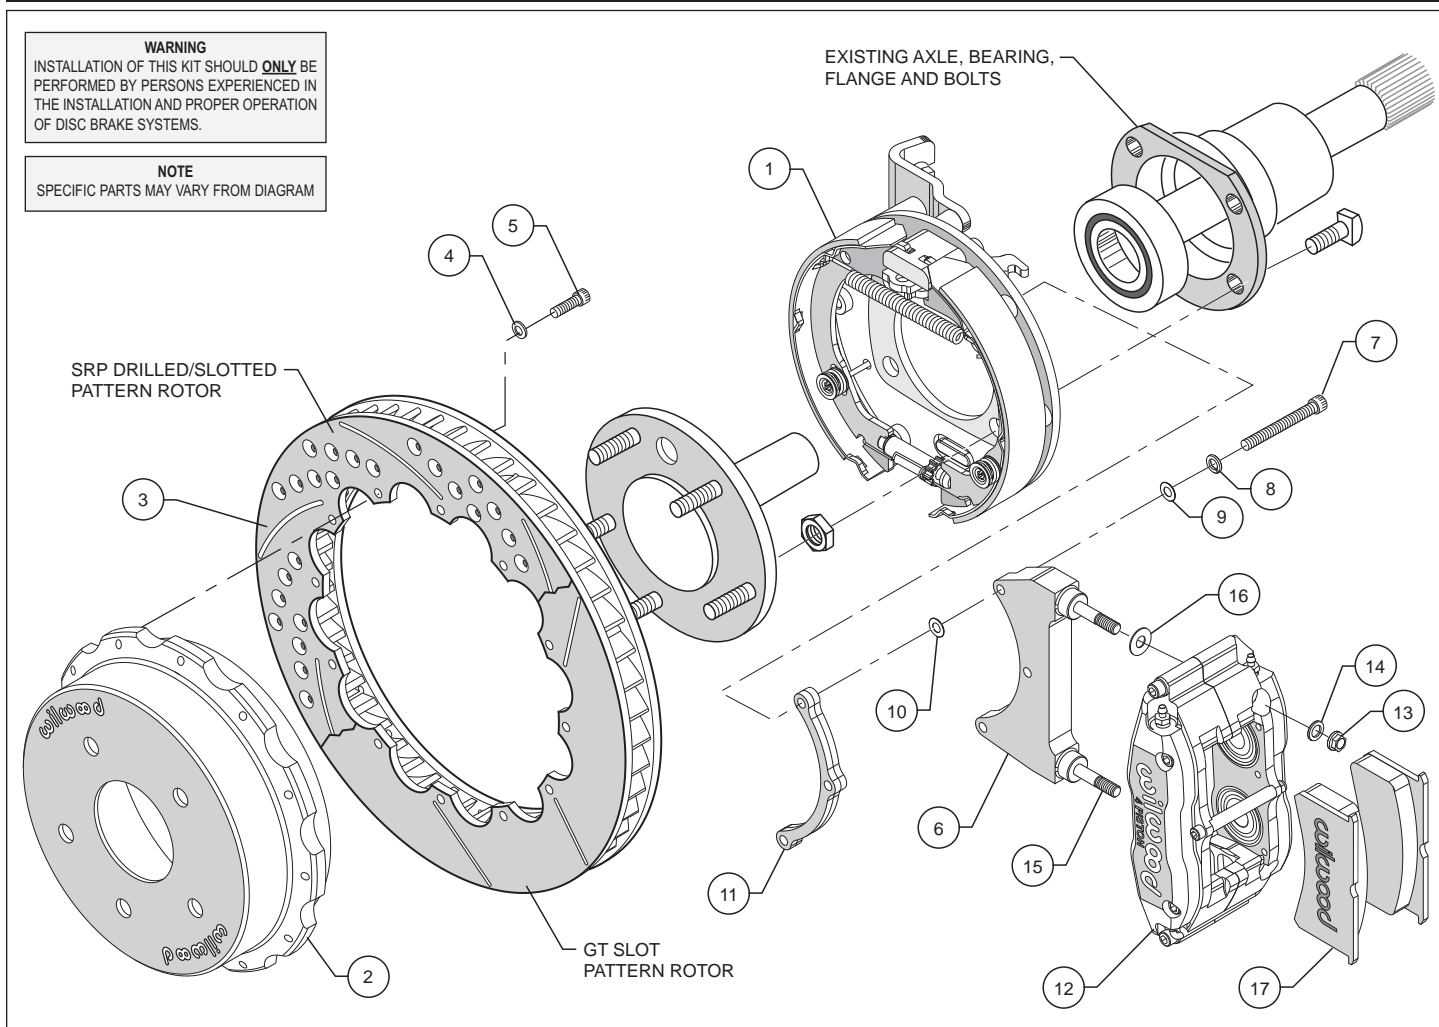
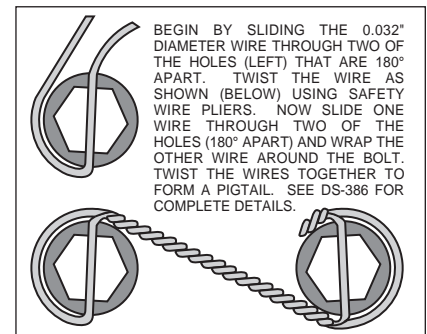

Figure 1. Typical Installation Configuration
Figure 4. Safety Wire Diagram
- Slide the bracket kit assembly (1) onto the housing flange and then insert the axle assembly through the center hole of the bracket kit assembly (1). Secure using the stock Original Equipment Manufacturer (OEM) bolts and nuts. Stock OEM hex nuts that retain the bracket kit assembly (1) should be on the wheel side of the bracket. Apply red *Loctite*® 271 to the stock OEM bolt threads and torque to OEM specifications. Make sure the bracket kit assembly (1) brake pads are FACING OUTWARD TOWARDS THE WHEEL.
- With the larger I.D. side of the rotor (3) facing away from the hat (2), bolt rotor (3) to hat (2) through the backside of the rotor using washers (4) and bolts (5). Torque bolts (5) in an alternating sequence to 103 **in-lb**. Safety wire bolts (5) using standard 0.032 inch diameter stainless steel safety wire as shown in Figure 4. Please refer to Wilwood's data sheet DS-386 (available at www.wilwood.com/pdf/ds386.pdf) for complete safety wire installation instructions.
- Align the correct hole pattern in the hat (2) with the stud pattern on the axle flange. **NOTE:** Some OEM and aftermarket axles come with stud sizes larger than 0.50" diameter. Verify stud size and have a qualified machine shop drill the hats to the correct size, if necessary. Slide the hat/rotor assembly (2 and 3) over the wheel studs covering the bracket kit assembly (1) and against the axle flange face. Check to be sure the hat seats squarely against the hub. Install a couple of lug nuts (finger tighten) to keep the rotor/hat assembly in place while continuing with the installation.
The caliper mounting bracket assembly (6) should be installed first with clean, dry threads on the mounting bolts (7). Install the bracket from the rear side of the bracket kit assembly (1) by sliding bolt (7) through lock washer (8), flat washer (9), bracket (6), shim washer (10) and finally through the spacer (11), see Figure 1. **NOTE:** End of bolt should not exceed inside face of insert. The bracket must tighten squarely against the back side of the bracket kit assembly (1). Inspect for interference from casting irregularities, machining ridges, burrs, etc. Use one thin shim (10) between the bracket (6) and spacer (11) during initial trial fitting.
- Install one washer (16) over each pre-installed stud (15) on the radial mount bracket (6). Slide the caliper (12) in place over the studs and rotor, then install the washer (14) and lock nut (13) to hold the caliper in place. The caliper bleed screws should be pointing up. Snug the lock nuts (13) and check that the rotor (3) is centered in the caliper (12). Add or subtract .015" shims (10) as necessary between the caliper mounting bracket (6) and the spacer (11) to center the caliper (12).
- Remove the caliper center bridge pad retainer bolt, nut, and tube from the caliper. Slide the brake pads (17) into place. They should install easily without interference. Check that the outside radius of the brake pad is aligned with the outside diameter radius of the rotor face. Add or subtract shims (16) between the caliper (12) and mount bracket (6) to gain the proper alignment. Reinstall the center bridge pad retainer tube, bolt, and locknut. The locknut should be snug without play in the bolt or tube. Be cautious not to over tighten.
- Adjust the parking brake shoes outward (using a drum shoe adjustment tool available at your local auto parts store) while spinning the hat (2) until a slight drag is felt against the hat/drum. Remove the lug nuts that were holding the hat/rotor in place. Install the wheel and lug nuts. Check to see that the wheel rotates freely without interference.
- Once all clearances have been checked, remove the wheel, caliper, hat/rotor from the bracket kit assembly (1). Secure the caliper mounting bracket (6) to the bracket kit assembly (1) using red *Loctite*® 271. Torque bolts (7) to 180 **in-lb**. Reinstall the hat/rotor assembly and again use lug nuts to hold it in place. Lubricate caliper mounting studs and nuts with lightweight oil, reinstall the caliper, torque the caliper nuts (13) to 30-35 ft-lb.